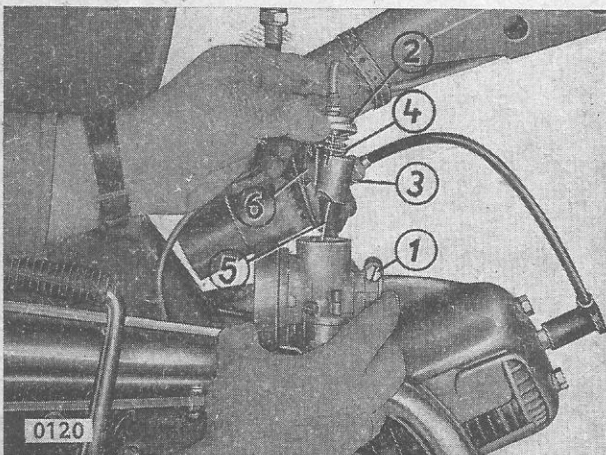

Fig. 20: Cleaning the carburetter:
1. Slacken retaining screw (Fig. 20/1) of carburetter.
3. Remove cap (Fig. 20/2).
4. Pull out throttle piston (Fig. 20/3) with valve needle and pressure spring.
5. Press throttle piston (Fig. 20/3) and cap together
(Fig. 20/2), release throttle cable from piston, pull out cable with spring (Fig. 20/4) and cap.
6. Take out valve needle (Fig. 20/5) with retaining spring. Clean all parts, if necessary exchange retaining spring. Fix needle in the third notch from above and insert it into the needle bore of the throttle piston.